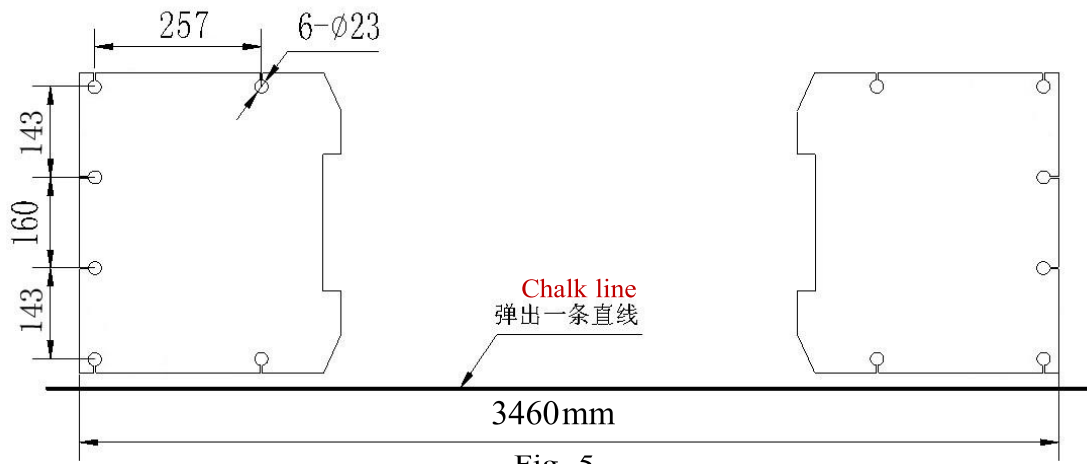

Fig. 5
B. Use a carpenter's chalk line to establish installation layout of baseplate (See Fig. 5).